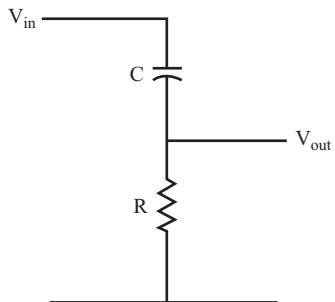

FIGURE 6.3
- 6 If you connect a capacitor and resistor in series (as shown in Figure 6.3), the circuit functions as a voltage divider.